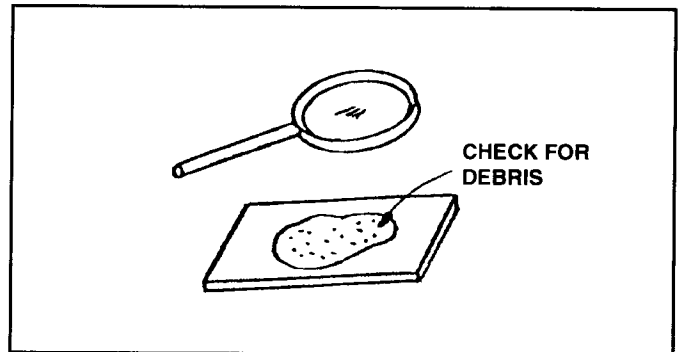

FIGURE 4.7
F. Inspect Waste Oils and Filters– FIGURE 4.7